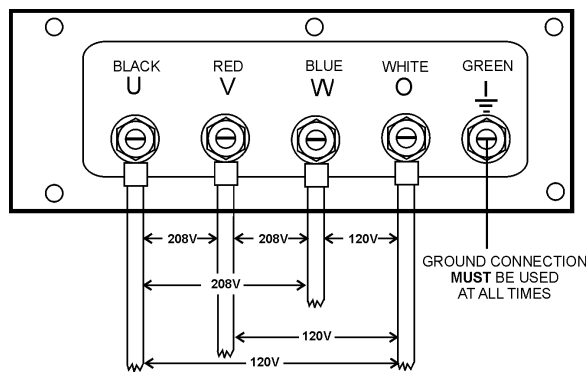

Figure 23. UVWO Terminal Lugs 3Ø-208/1Ø-120V Connections
2. Connect the load wires to the UVWO terminals as shown in Figure 23.